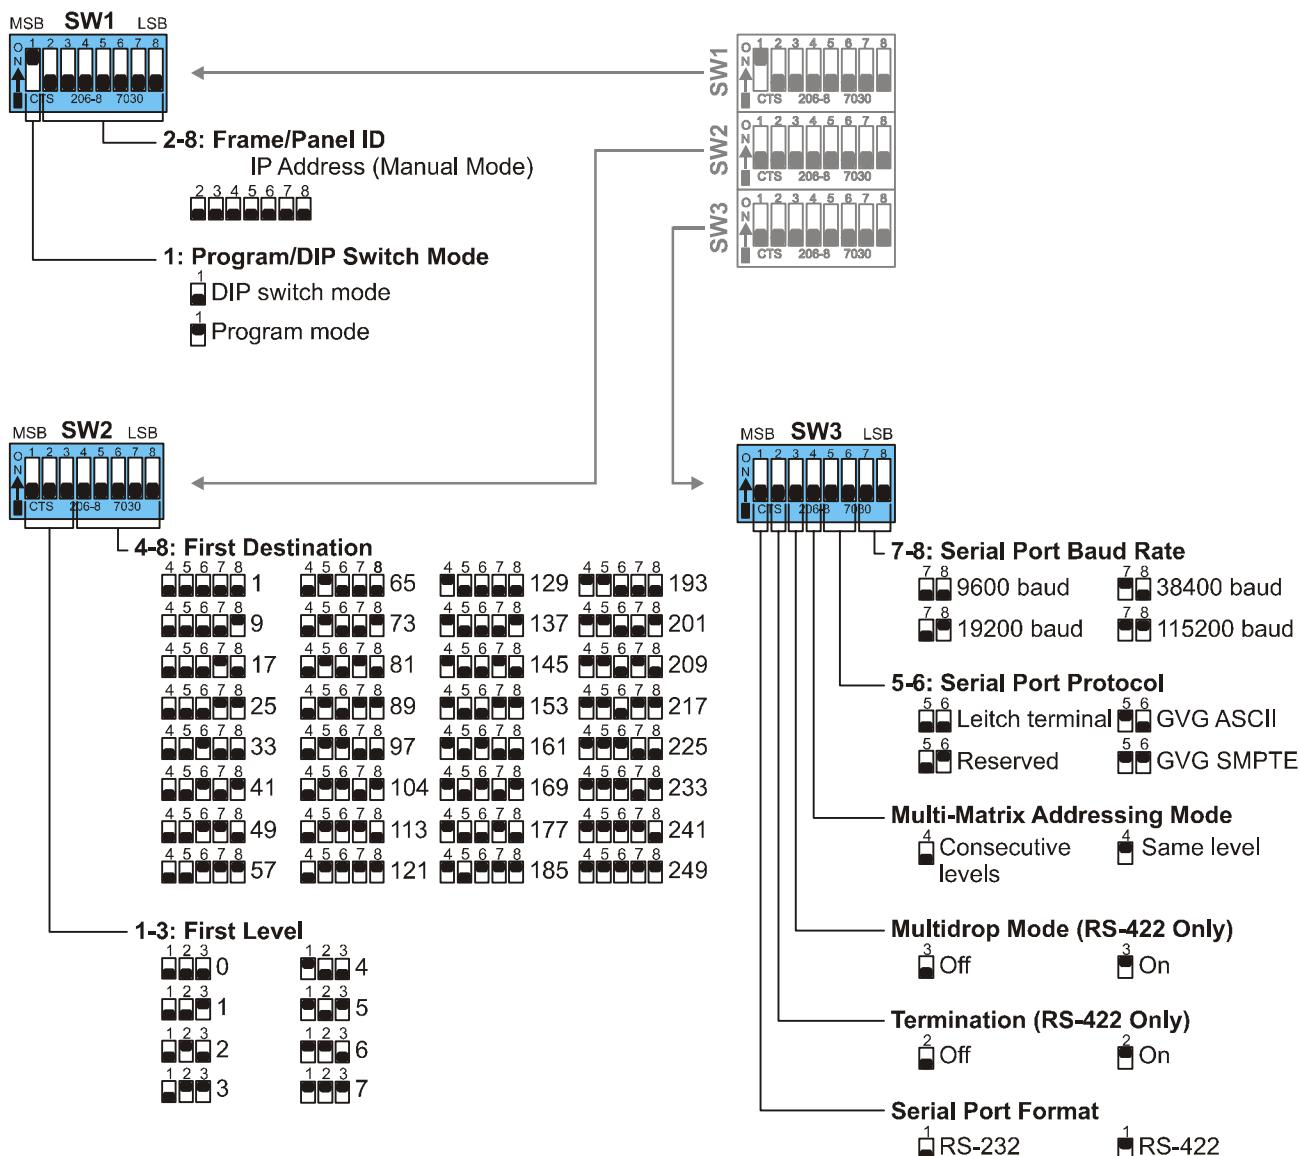

Figure 1 DIP Switches
2. Verify these DIP switch values on the logic controller module (see Figure 1 on page 6 in this initial setup guide):
- Make sure the SW1 DIP switch pole 1 (Program/DIP Switch mode) is set to Program mode (ON).